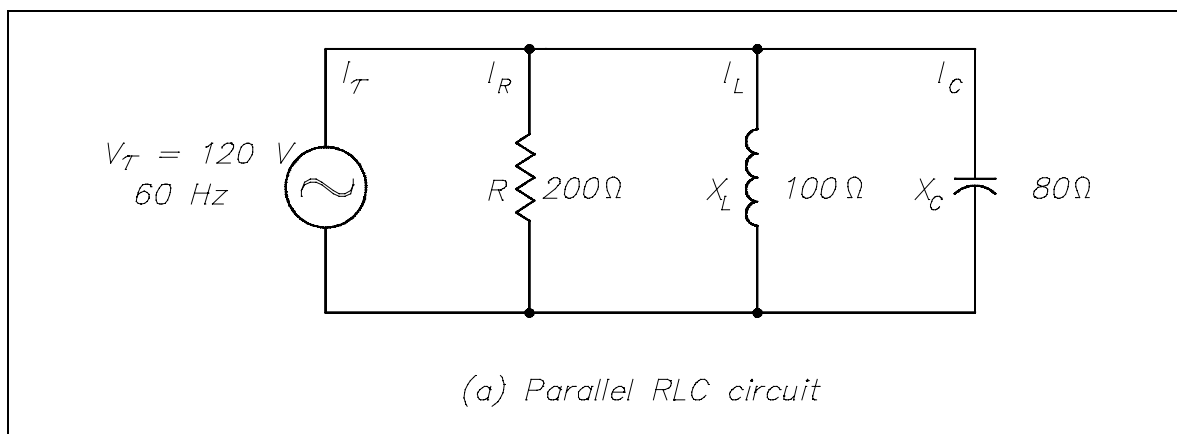

Figure 10 Simple Parallel R-C-L Circuit
**Example:** A  $200\ \Omega$  resistor, a  $100\ \Omega$   $X_L$ , and an  $80\ \Omega$   $X_C$  are placed in parallel across a 120V AC source (Figure 10). Find: (1) the branch currents, (2) the total current, and (3) the impedance.
If a capacitor and an inductor, each with negligible resistance, are connected in parallel and the frequency is adjusted such that reactances are exactly equal, current will flow in the inductor and the capacitor, but the total current will be negligible. The parallel C-L circuit will present an almost infinite impedance. The capacitor will alternately charge and discharge through the inductor. Thus, in a parallel R-C-L, as in Figure 10, the net current flow through the circuit is at minimum because of the high impedance presented by  $X_L$  and  $X_C$  in parallel.